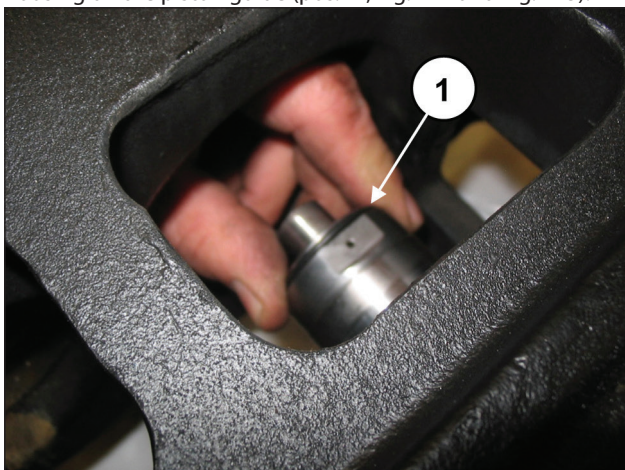
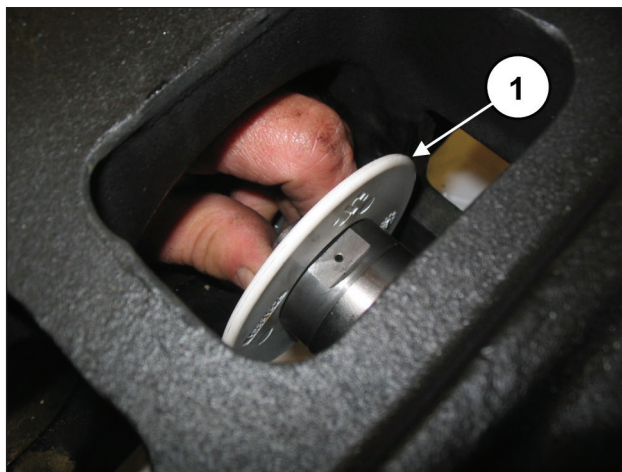

Fig. 144
Fig. 145
Position the spray-guard together with the O-ring in the housing on the piston guide (pos. ①, Fig. 144 and Fig. 145).